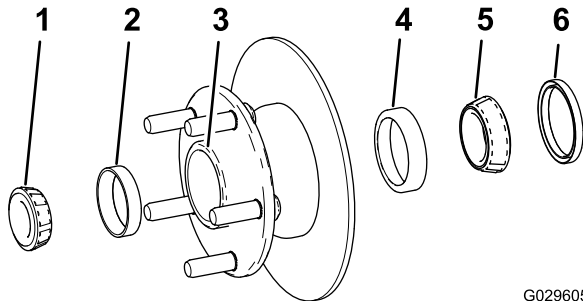

Figure 34
1. Remove the outboard bearing and bearing race from the hub (Figure 34).
2. Remove the seal, inboard bearing and bearing race from the hub (Figure 34).
5. Clean the cavity of the hub of all grease, dirt, and debris (Figure 34).
7. Install the inboard and outboard bearing races into the hub (Figure 34).
8. Fill the cavity of hub 50 to 80% full of the specified grease (Figure 34).
9. Assemble the inboard bearing onto the race at the inboard side of the hub and install the seal (Figure 34).